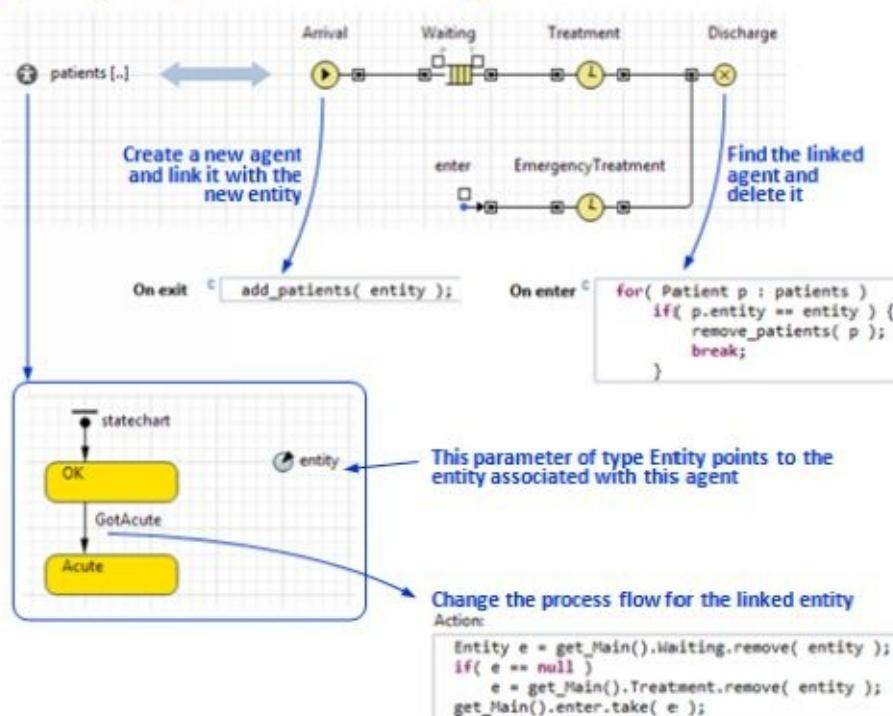

Figure 6.10 Each entity in the process has an agent associated with it
U. An entity in the process is at the same time an agent. Although this architecture is not present in Figure 6.10, it is often used to model process flows that can be changed or interrupted by events generated by entities' individual dynamics. Consider a patient who is in the middle of being treated in a hospital, and whose condition suddenly changes from normal to acute. This patient should be removed from the regular process and inserted into a special emergency treatment process.
In the model shown in Figure 6.10, a population of agents (*patients*) is located on the same canvas as the process flowchart. The population is initially empty. As a new patient-entity is generated by the *Arrivals* source object, a new patient-agent is created and gets linked with the entity: the agent's parameter *entity* points to the newly created patient-entity. When the patient-entity is discharged, the *Discharge* sink object searches for the patient-agent associated with the entity and deletes it from the model.